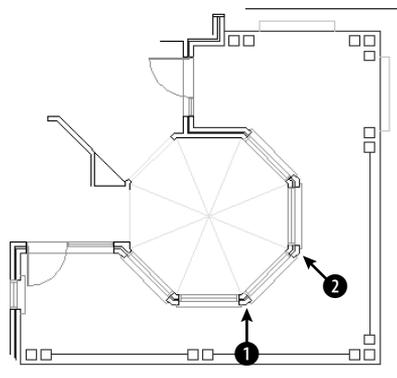

Figure 14-9: A section of a floor plan of a house.
2. Save the file as ab14-02.dwg in your AutoCAD Bible folder. This is part of a floor plan of a house, as shown in Figure 14-9. OSNAP should be on. Set running object snaps to endpoint and intersection. If the Dimension toolbar isn't visible, choose View ⇨ Toolbars and check Dimension. Click Close.
Specify first extension line origin or <select object>: Choose **1** in Figure 14-9.
Specify second extension line origin: Choose **2** in Figure 14-9.